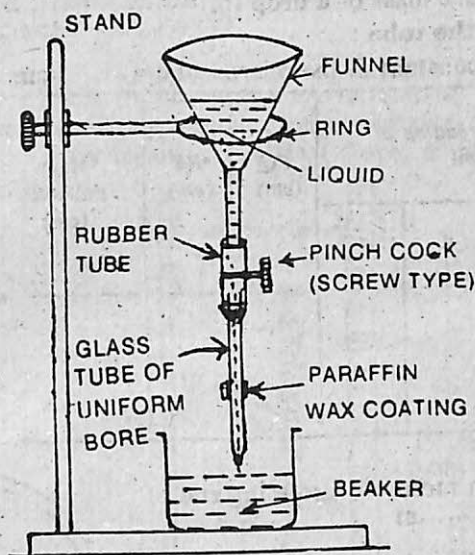

Fig. 31.1
1. Place the funnel in a ring as shown in Fig. 31.1. Fix the glass tube to the lower end of the funnel with a rubber tubing. Attach the pinch cock on the rubber tube, to regulate the liquid flow. Make a thin coating of wax on the dropping end of the glass